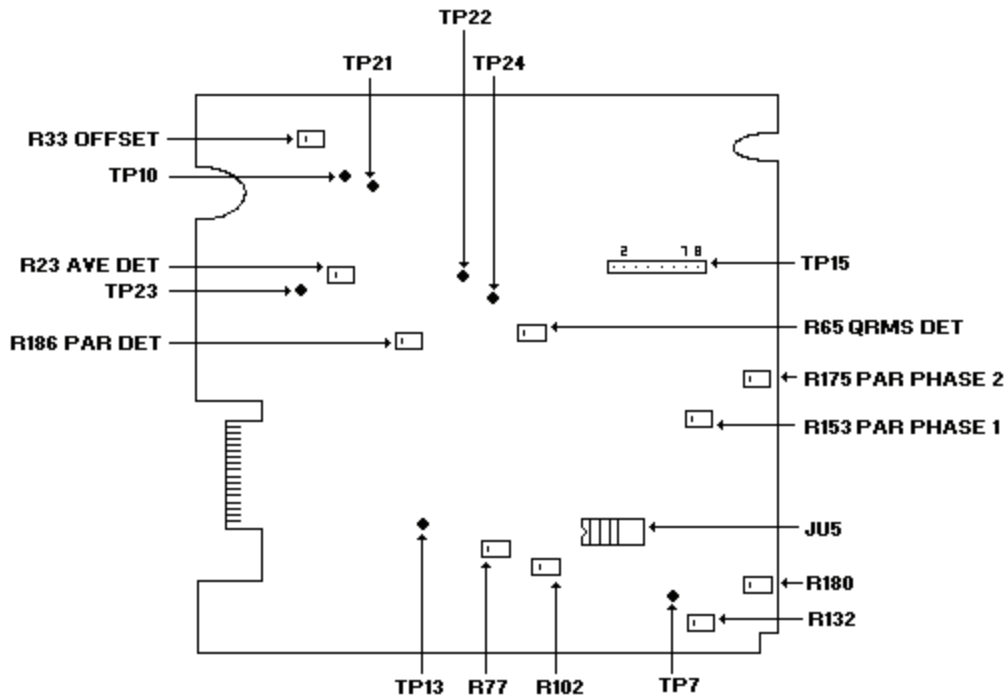

Figure 1. Receiver board A3 (A13) - adjustment locations.
- (1) Press calibrator **RESET** key and disconnect from TI.
- (2) Connect left **TRMT/RCV 310** to right **RCV/TRMT 310** using a T-type connector.
- (3) Connect multimeter **Input HI** and **LO** to T-type connector.
- (4) Press **IMPULSE NOISE DISPLAY F2 1004** key. Right display will indicate 1004 Hz.
- (5) Adjust **OUTPUT LEVEL** control until multimeter indicates about 1.0 V ac. Record exact value.
- (6) Connect multimeter **Input HI** to TP13 (fig. 1) and **LO** to ground. Adjust R77 (fig. 1) until multimeter indicates value recorded in (5) above (R).
- (7) Disconnect left **TRMT/RCV 310** from right **RCV/TRMT 310**.
- (8) Press **MEASUREMENT MEAS** key to select **NOISE** and **DISPLAY** key to select **TRMT**. Connect jumpers from TP10 to TP21 and from TP22 to TP23 (fig. 1).
- (9) Connect multimeter **Input HI** to TP24 (fig. 1). If multimeter does not indicate 0 V dc  $\pm 0.3$  mV dc, adjust R33 **OFFSET** (fig. 1) for 0 V dc. Disconnect jumpers and multimeter (R).
- (10) Set calibrator for a 0.77 V, 1.004 kHz output. Do not connect to TI at this time.
- (11) Press **DISPLAY** key to select **RCV** and **MEASUREMENT MEAS** key to select **LEVEL FREQUENCY**.
- (12) Press **NOR** and **SET UP RCV 600  $\Omega$**  pushbuttons.
- (13) Release **SET UP RCV BRG**, **RCV HOLD**, **TRMT DIAL**, and **TRMT HOLD** pushbuttons (out).
(14) Connect calibrator (preset in (10) above) **OUTPUT HI** and **LO** to TI right **RCV/TRMT 310**. Adjust R23 AVE DET (fig. 1) for > 0.0 dBm indication on TI left display, then reduce until indication just changes to -0.1 dBm (R).
(15) Set calibrator amplitude to 0.7795 V. TI left display will indicate +0.1 dBm, if not, repeat (14) above at 0.77 V.
(16) Press **MEASUREMENT MEAS** key to select **NOISE**.
(17) Press **FILTER FILTER** key to select **15 kHz FLAT**.
(18) Set calibrator amplitude to 0.727 V.
(19) Adjust R65 QRMS DET (fig. 1) until TI left display indicates 90 dBm then reduce level until indication just changes to a stable 89 dBm (R).
(20) Set calibrator amplitude to 0.826 V. TI left display will indicate 91 dBm, if not repeat (18) and (19) above.
- (2) Connect left **TRMT/RCV 310** to right **RCV/TRMT 310**.
- (3) Press **DISPLAY** key to select **TRMT** and **MEASUREMENT MEAS** key to select **LEVEL FREQUENCY**.
- (4) Press **←**, **STEP UP**, **STEP DOWN**, and **→** keys until TI right display indicates 995 Hz. Adjust **OUTPUT LEVEL** control until left display indicates 0.0 dBm.
- (5) Press **DISPLAY** key to select **RCV**.
- (6) Move shorting bars on JU5 (fig. 1) to right (shorting pins 5 to 12, 6 to 11, 7 to 10, and 8 to 9).
- (7) Connect oscilloscope **CHAN 1** to pin 1 of JU5 (fig. 1).
- (8) Adjust R102 (fig. 1) for minimum ac signal on oscilloscope (R).
(9) Press ←, **STEP UP**, **STEP DOWN**, and → keys until TI right display indicates 1010 Hz.
(10) Connect oscilloscope **CHAN 1** to pin 4 of JU5 (fig. 1).
(11) Adjust R132 (fig. 1) for minimum ac signal on oscilloscope (R).